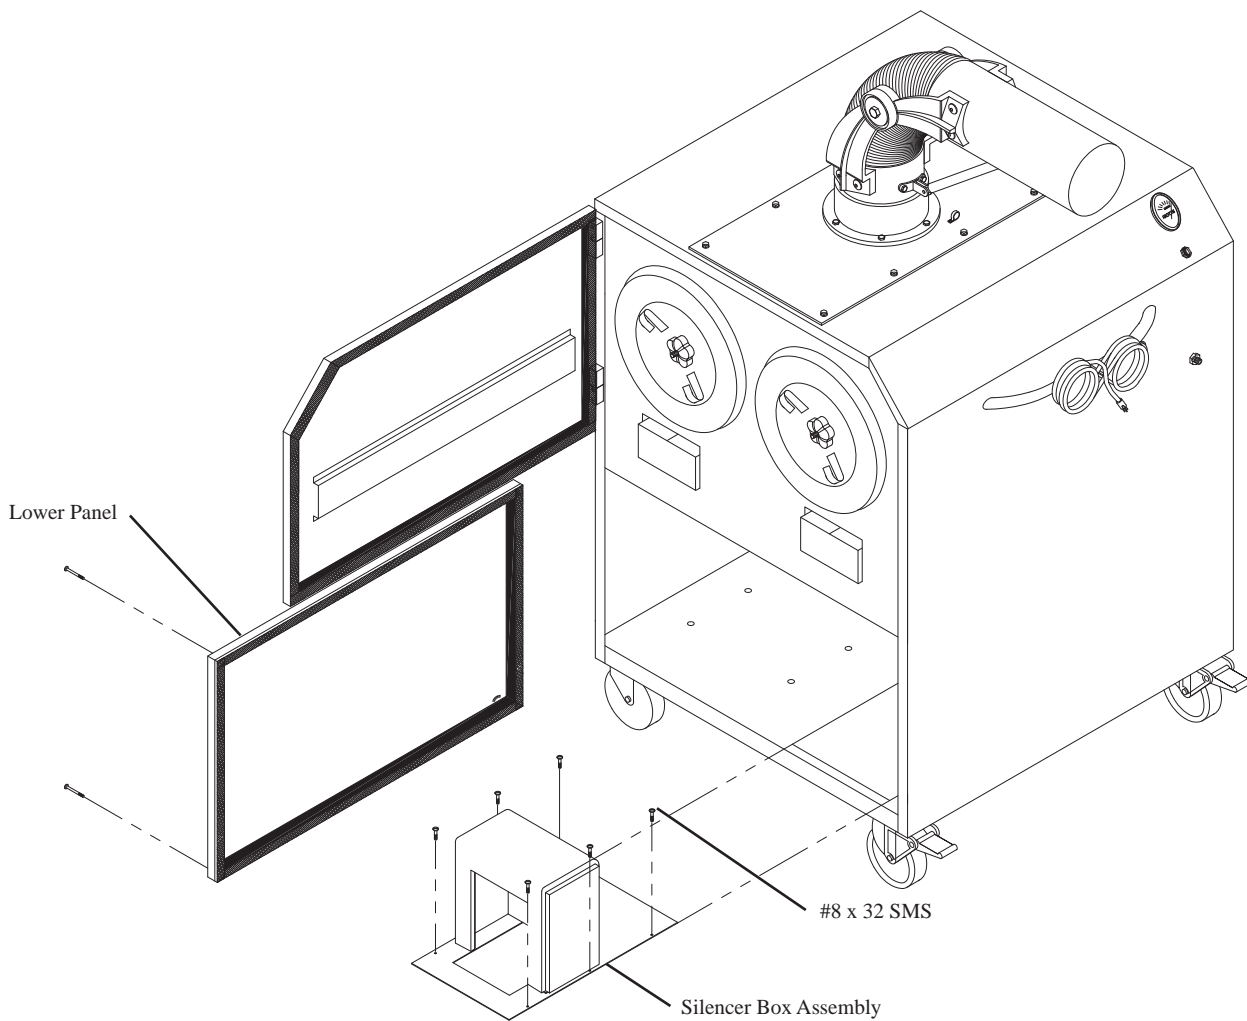

Fig. 3
1. Remove the four (4) screws used to attach the lower panel and remove the lower panel from the MC1500 unit.
2. Locate the silencer box assembly (Fig. 3). Silencer assembly is to be located flush to front edge of cabinet bottom and centered above the exhaust opening.
3. Attach the silencer box assembly using the six (6) sheet metal screws provided.